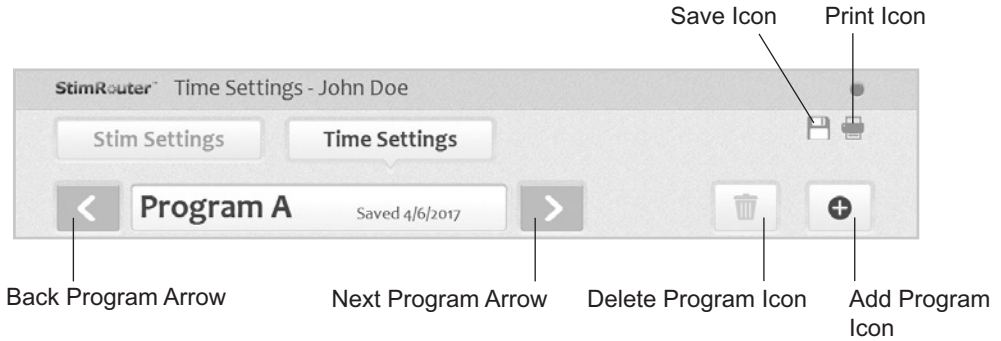

Figure 10-10: Program icons on the program bar
1. From the Stim Settings Window or Time Settings Window press the add program icon on the Program Bar. See Figure 10-10.
1. From the Stim Settings Window or Time Settings Window press the Save program icon on the Program Bar. See Figure 10-10.
2. Press the delete program icon on the Program Bar. See Figure 10-10.
1. From the Stim Settings Window or Time Settings Window, select a program and press the print icon on the Program Bar. See Figure 10-10.